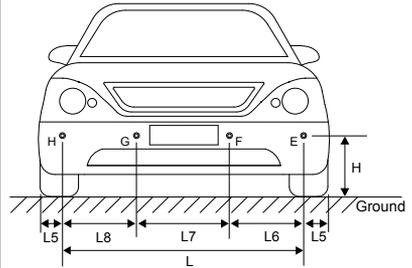

Fig. 2 Mounting Height and Position (Front Sensors)
The two front sensors shipped with the 6-sensor system are labeled as 'E' and 'H'. Depending on your specific vehicle or application, they can be plugged into either the control box's ports 'E' and 'H' or ports 'F' and 'G' corresponding to the same sensor locations on the front bumper of vehicle as shown in Fig. 2 in the User's Manual.
Install the two front sensors to bumper locations 'E' and 'H' for better corner coverage of the front bumper, or install to bumper locations 'F' and 'G' for a balanced front bumper coverage as shown in Fig.2 in the User's Manual.
- d) **Note:** If you have a 6-sensor system, install the two front sensors to bumper locations 'E' and 'H' for better corner coverage of the front bumper, or install to bumper locations 'F' and 'G' for a balanced front bumper coverage as shown in Fig.2